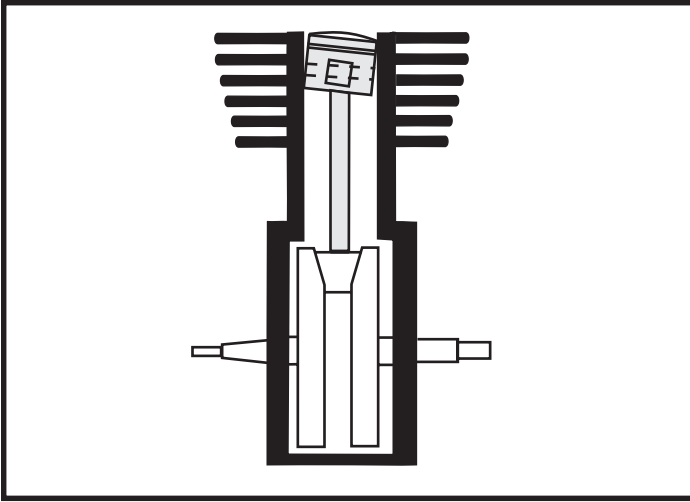

Figure 1
- Move piston toward driveside of engine and repeat Step C. If misalignment exists, piston will appear closer to cylinder wall at one point around circumference. Condition can be corrected by bending rod in opposite direction. Figure 1 shows an exaggerated side view.